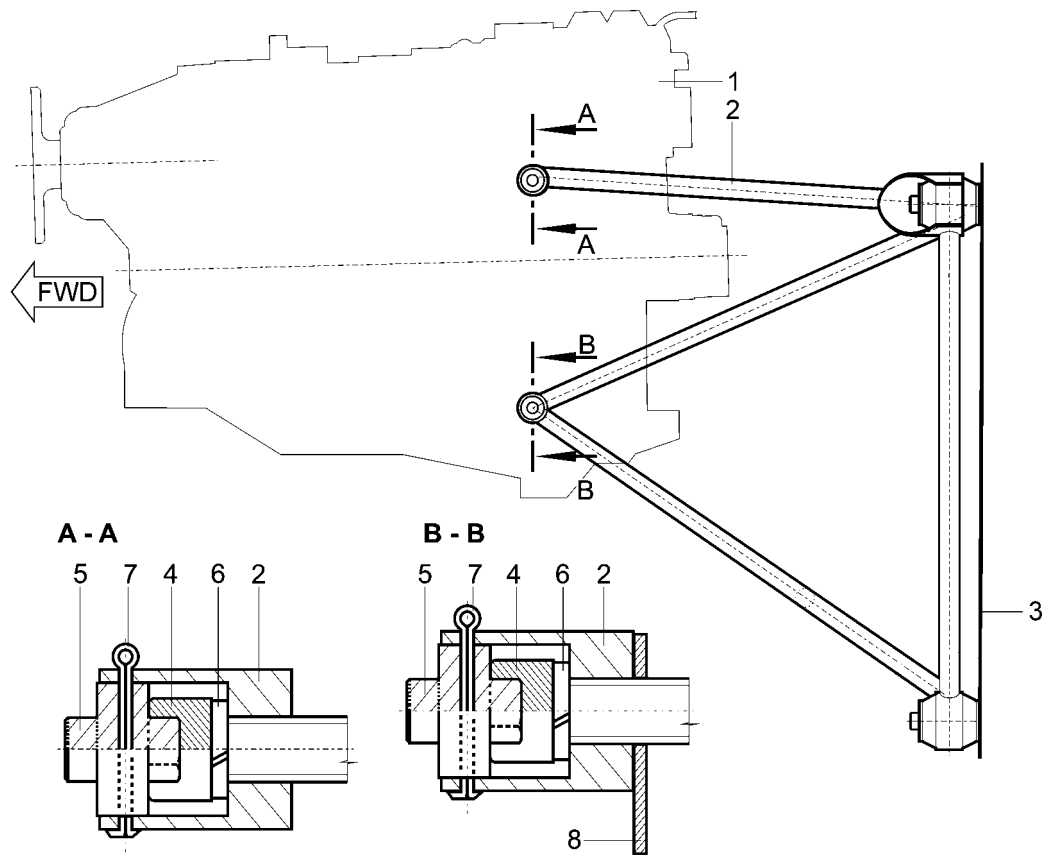

Fig. 3 – Engine suspension
- 1.3.1.10 Remove the cotter pins and plugs (5, 7, Fig. 3) from the bolts (1, 2, 3, 4, Fig. 2) in the joint of the engine and the engine mount hinges.
- 1.3.1.11 Remove the bolt (1) from the joint of the engine and the engine mount hinges. Immediately replace the removed bolt with a **new** bolt and a **new** washer (6, Fig.3) one and tighten it lightly.
- 1.3.1.12 Remove the bolt (2) from the joint of the engine and the engine mount hinges. Immediately replace the removed bolt with a **new** bolt and a **new** washer (6, Fig.3) and tighten it lightly.
- 1.3.1.13 Remove the bolt (3) from the joint of the engine and the engine mount hinges. Immediately replace the removed bolt with a **new** bolt and a **new** washer (6, Fig.3) and tighten it lightly.
- 1.3.1.16 Put the plugs (5, Fig.3) on the bolts (4), (1,2,3,4, Fig.2).
- 1.3.1.17 Mark the plugs (5, Fig. 3) with a marking pin in accordance with the holes in the engine mount hinges (2) on both sides.
- 1.3.1.26 Refill the operating fluids (coolant, oil) according to the ROTAX Maintenance Manual MML-912 | PART NO.: 899196 or later if they have been drained while accessing the bolts of the engine mount hinges (4, Fig. 3).
Legend to Fig. 3